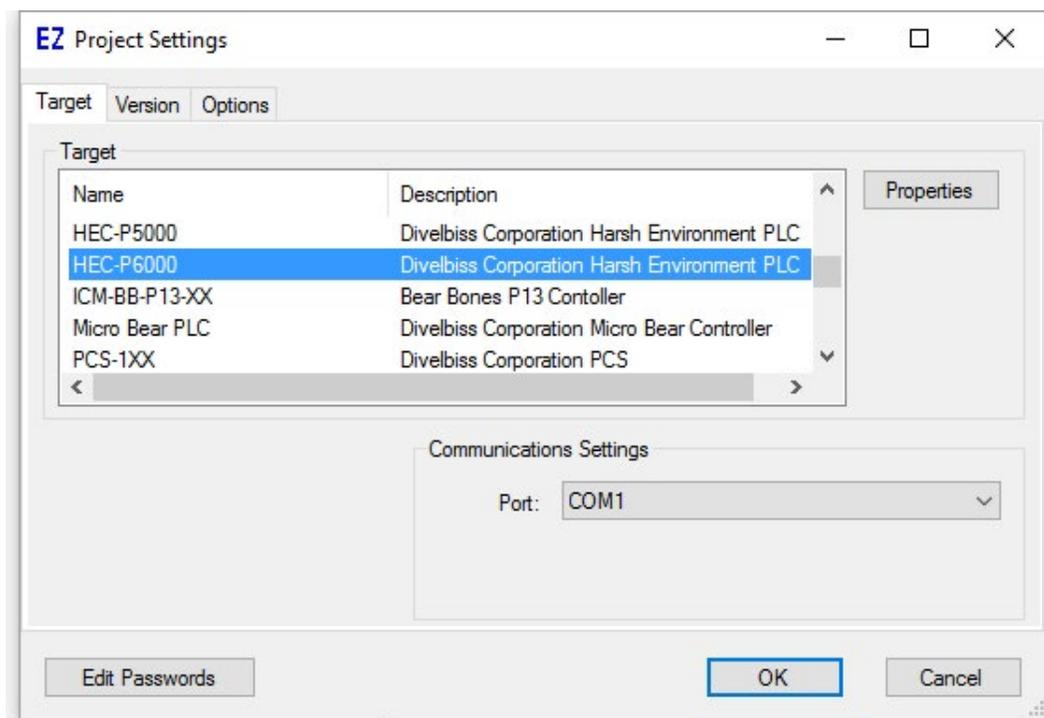

Figure 1.1 - Project Settings Window
1. In EZ LADDER, from the File Menu at the top, click **PROJECT** then **SETTINGS**. This will open the Project Settings Window. Select **HEC-P6000** as the target from the choices. Refer to Figure 1.1. Verify the correct COM Port is selected.